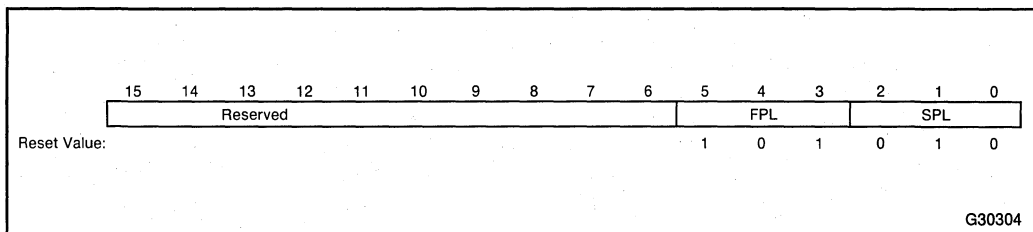

Figure 4-9. Graphics Processor Priority Register
The Graphics Priority Register determines the priority of Graphics Processor (GP) requests for the bus and block transfers. A request is evaluated based on whether it is the first (FPL) request for the bus or a subsequent (SPL) request to complete a block transfer. Figure 4-9 illustrates the format of the Graphics Processor Priority Register.